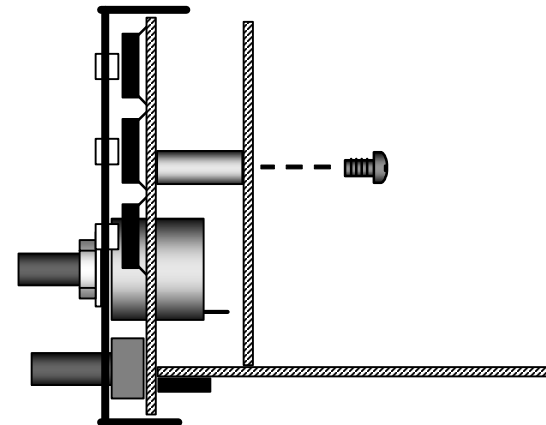

Figure 6-12
- Secure the front panel and Control boards together using two chassis screws (Figure 6-12). The upper left and right corners of the Control board may be touching the 2-D fasteners, or there may be a small gap.